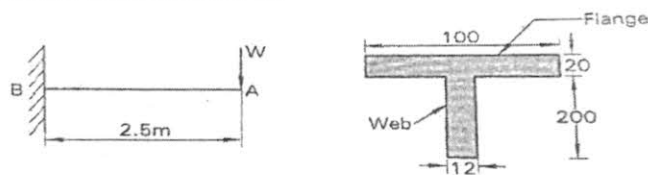

Figure Q7(b)
b) A beam of T section has a length of 2.5 m and is subjected to a point load as shown in Figure Q7(b). Calculate the compressive bending stress and plot the stress distribution across the cross-section of the beam. The maximum tensile stress is limited to 300MPa. Calculate value of W